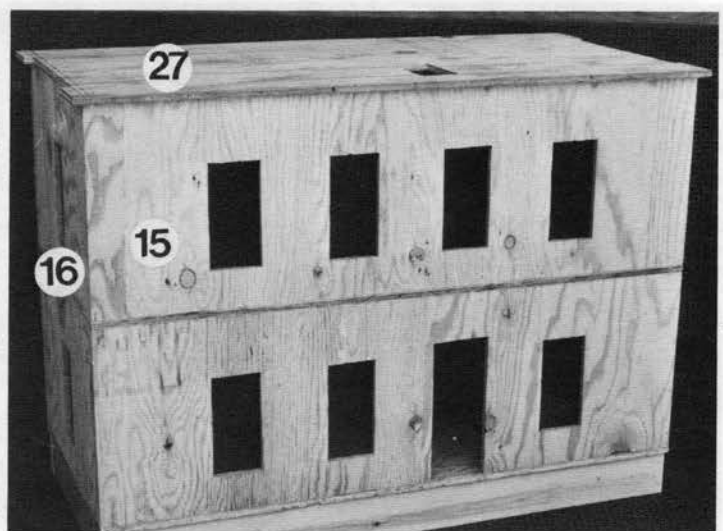

Fig. 14 Back
STEP 12: (FIGURE 13) shows the bath front wall (with door) 25B. Do not glue it in at this time. It must remain removable for access to decorate and equip the bath. (FIGURE 14) shows a rear view.